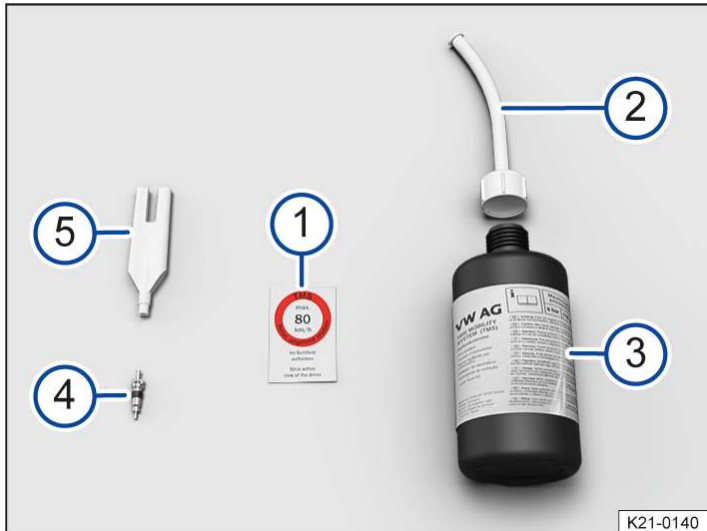

Fig. 1 Contents of the breakdown set (illustration).
- ① Sticker with the maximum permitted speed "max. 80 km/h" or "max. 50 mph".
- ② Tyre sealant tube with plug.
- ③ Tyre filler bottle.
- ④ Spare valve core.
- ⑤ Valve core extractor.
There is a slot for the valve core on the lower end of the valve core extractor → Fig. 1 ⑤. This is required for extracting the valve core from the tyre valve and then screwing it back into the valve again. This also applies to the spare valve core ④.
1. Take the sticker from the breakdown set → Fig. 1 ① and stick it on the dash panel within the driver's field of vision.
3. Use the valve core extractor → Fig. 1 ⑤ to unscrew the valve core from the tyre valve. Place the core on a clean surface.
4. Shake the tyre filler bottle → Fig. 1 ③ vigorously to and fro several times.
5. Screw the tyre sealant tube → Fig. 1 ② tightly onto the tyre filler bottle in a clockwise direction. The seal on the top of the bottle is pierced when doing so.
6. Remove the plug from the filler hose → Fig. 1 ② and place the open end fully on the tyre valve.
9. Use the valve core extractor → Fig. 1 ⑤ to screw the valve core back into the tyre valve.